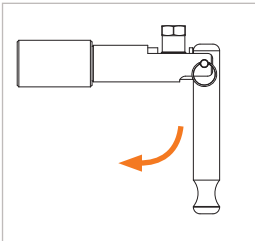

Figure 4
- ▶ Actuate the clamping lever (Pos. 2) by 90° downwards (Figure 4). The connector tightens itself to the test piece and creates a pressure-tight connection.